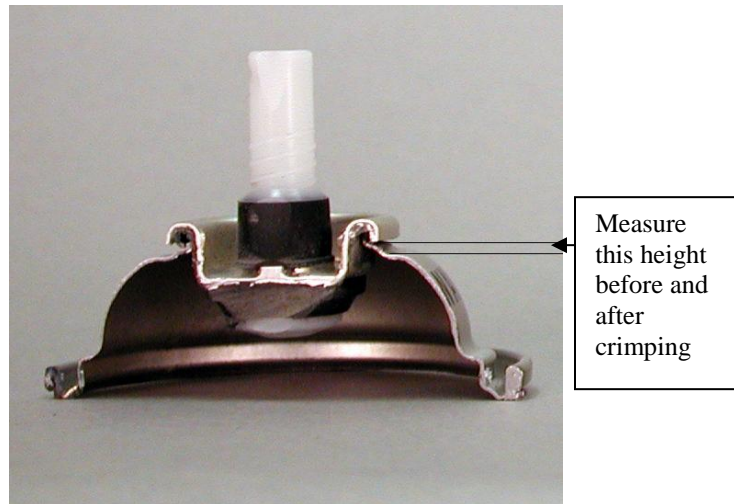

Figure 27 – Measuring Location for Crimp Pull
- b. Using a feeler gauges, measure the height between the bottom of the mounting cup skirt and the top of the can dome (see Figure 27). Mark the valve and can dome at the location of the measurement.